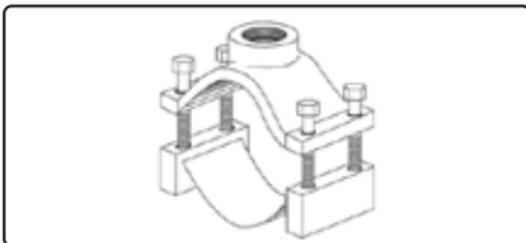

Figure 12
- Can be used with any size or class of pipe. (See Figure 12)